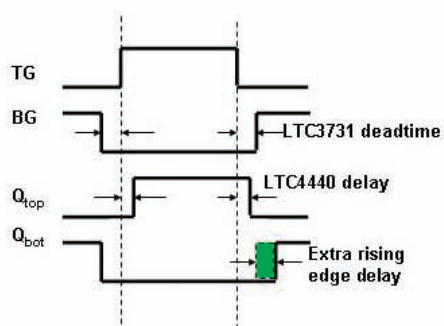

Figure 7: Extra rising edge delay is needed for the bottom gate to account for the delay induced by the external LTC4440 FET driver at the top gate
The gate timing of the top FET and bottom FET in a synchronous buck converter is critical. As shown in **Figure 7**, the external driver LTC4440 introduces a propagation delay from the LTC3731's top driver output (TG) to the top FET gate signal Q_{top}.